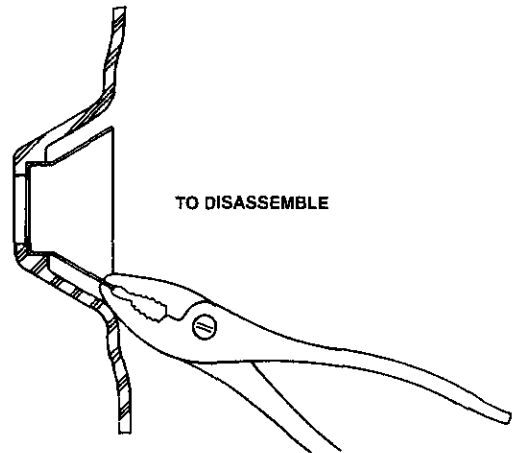

Figure 14
- Remove copper insert as shown in Figure 14. do not deform.